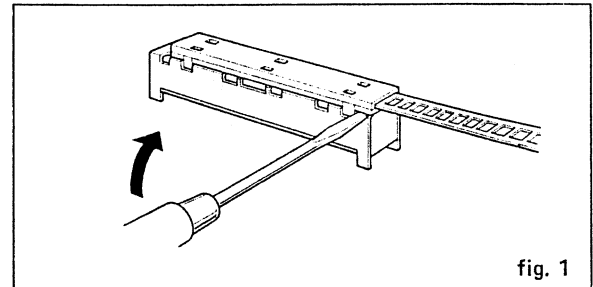

fig. 1
- Disconnect all leads and connectors from the function C. board, then remove the flexible wires from each on-board switch using a small standard screwdriver (Figure 1).
- Remove screws ③ ~ ⑬ shown in Photo 4 to remove the function C. board.